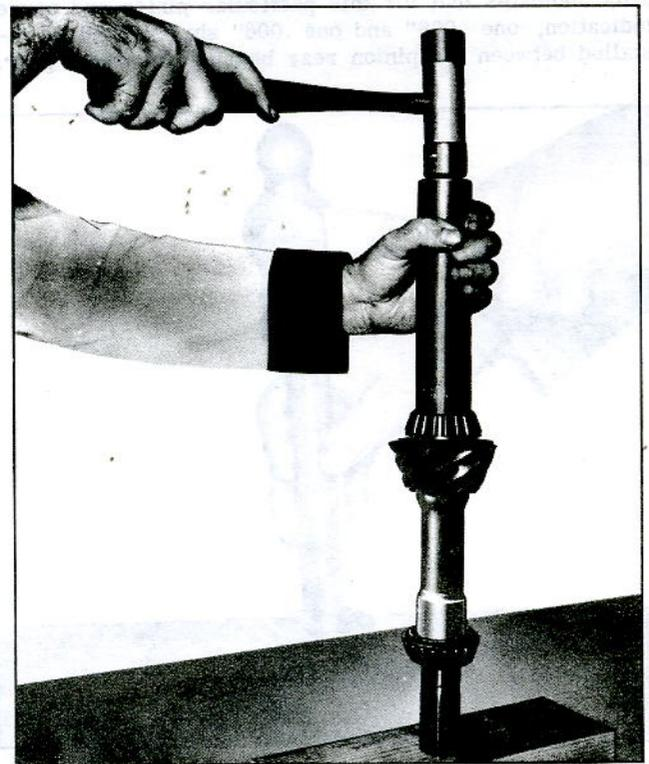

Fig. 21—Installing Pinion Rear Bearing with J-5590
3. Assemble shim(s) selected in Step 2f on rear face of pinion gear, then install pinion rear bearing using J-5590 as illustrated in Figure 21. Install pinion front bearing in the same manner.